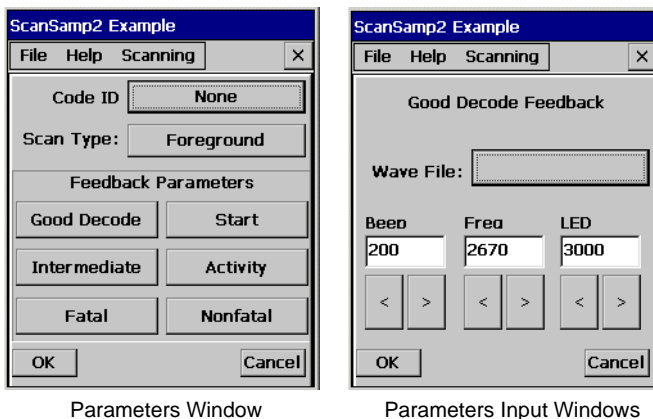

Figure 5-3. ScanSamp2 Examples
- Tap *Feedback Parameters* to select the feedback parameters category (**Good Decode**, **Intermediate**, **Fatal**, **Start**, **Activity**, **Nonfatal**). All of the parameter categories use the same format Parameters Input Window, see Figure 5-3.